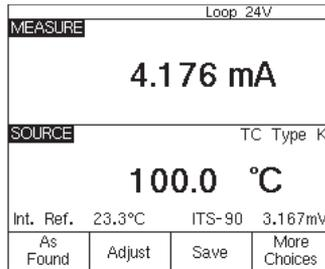

Figure 5
**Note:** Skip to step 7 if you are measuring current in series using the house loop power source mentioned in step (2).
6. Next, depress the "SETUP" button on the DPC. The cursor should begin on loop power. Depress "ENTER," down arrow until the DPC cursor is on Enable 24V and depress "ENTER." Next depress the "Done" softkey (Figure 5).